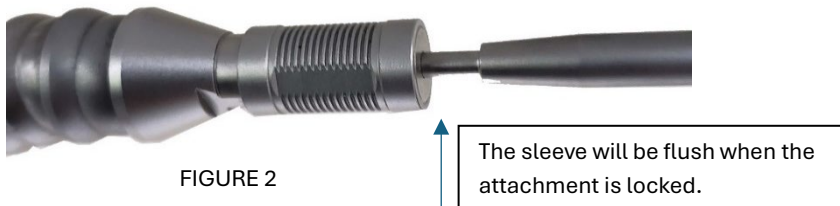

FIGURE 2
- Release the sleeve to its original position to lock in the Heart Assist Finger. The sleeve must be completely forward and flush with the connector (see Figure 2).